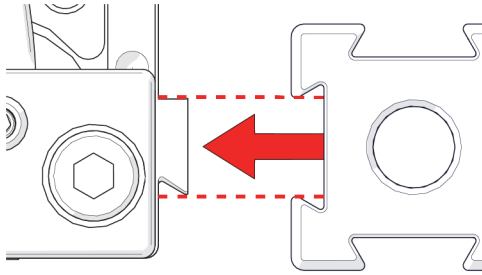

Figure 2-9 Mount frame bar
5. Press the frame bar or accessory to the swivel mount (see Figure 2-9 on page 53) and tighten the black wing knobs.